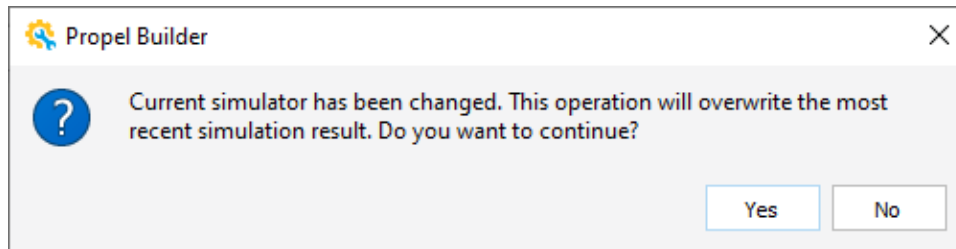

Figure 2.195. Remind for Simulation Tool Change
8. If there is a simulation tool change, make sure to generate simulation environment again. Otherwise, a dialog box pops up prompting you to make a choice of Yes or No (Figure 2.195).